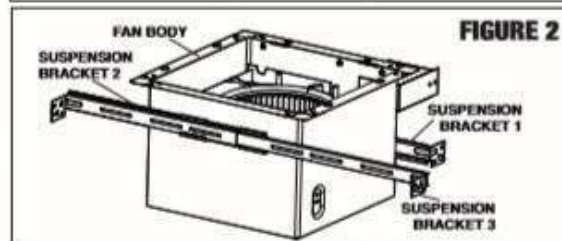

FIGURE 2
### 2. SUSPENSION BRACKET INSTALLATION (FIGURE 2)
- For ceiling joist installations under 20", insert suspension bracket 1 into the fan body, as shown in Figure 2. Proceed to step 3.